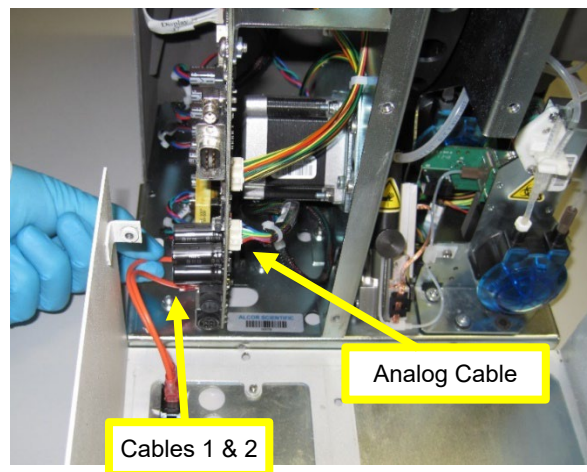

Figure 5
- 2.6. Before separating the back enclosure, remove the power switch wires from the mainboard. Figure 5